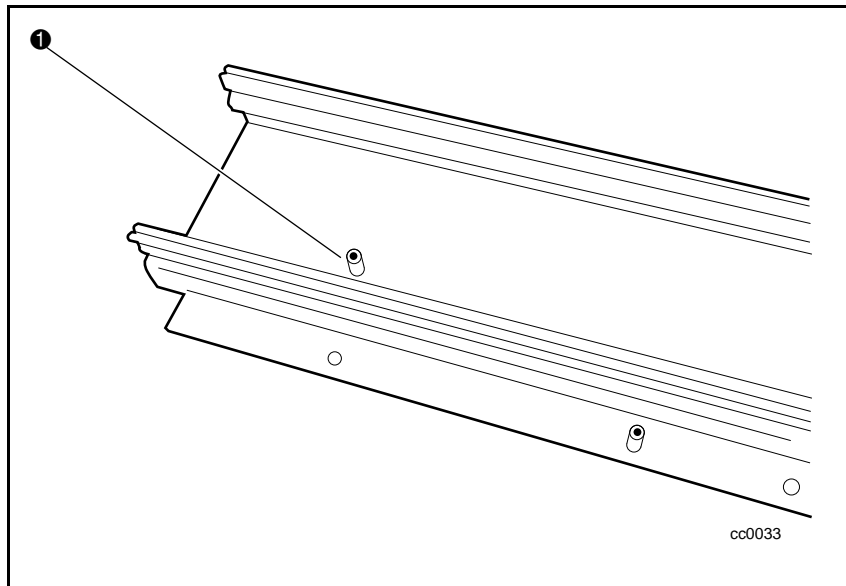

Figure C-14. Location stop pin
4. Move the location stop pin to the lowest PTM extrusion (❶ Figure C-14).
8. Move location stop pin to lowest PTM extrusion (● Figure C-14).